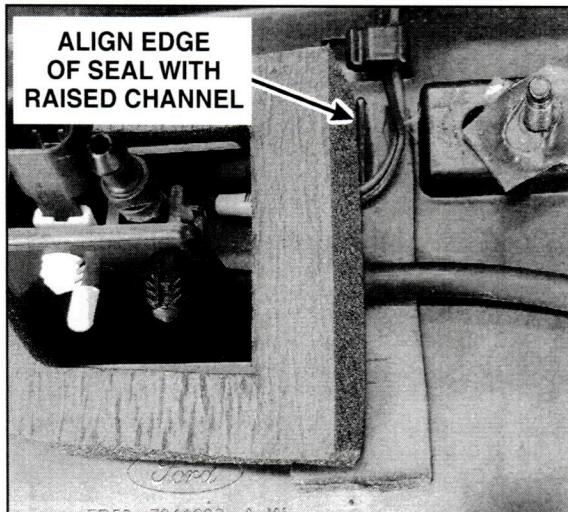

FIGURE 12a
6. Install a *new* liftgate spoiler tower seal. The flat edge of the seal must be aligned with the raised channel on the spoiler. See Figures 12a and 12b.